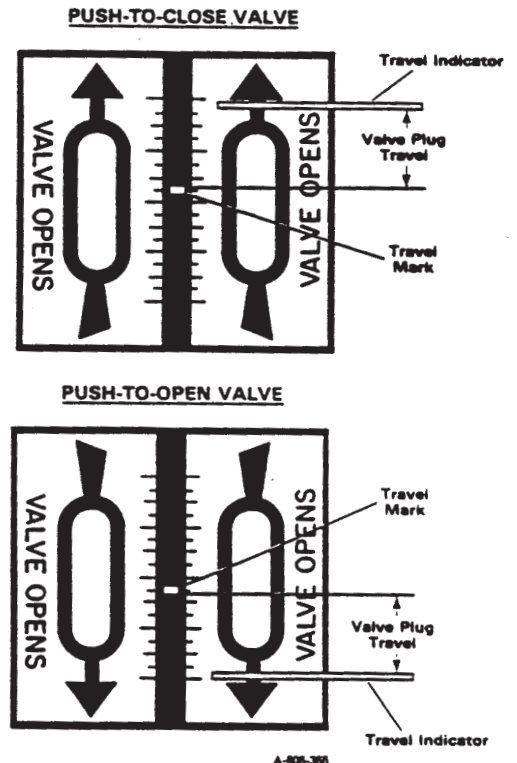

Figure 5. Travel Indicator Plate Showing Valve Plug Travel
When the actuator is completely installed and connected to the control device, it should be checked with normal working line pressure conditions for correct travel. Apply the pressure range listed on the data plate to the actuator. Note that travel indicator should have moved the distance marked on indicator plate, Figure 5.
2. If indicator is not at travel marks on plate, Figure 5, measure distance between indicator and mark.